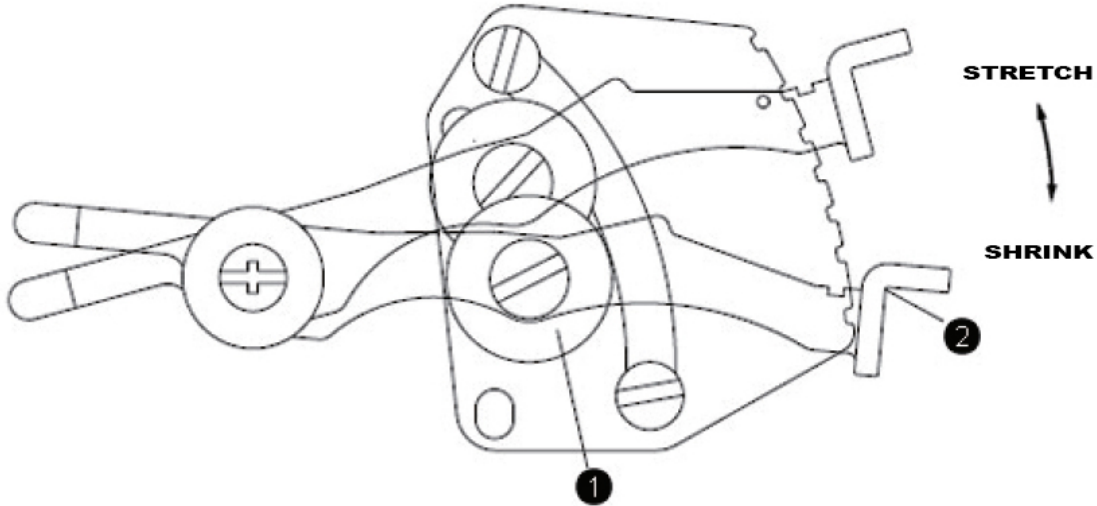

Figure 15
Loosen the adjusting nut (1) Adjust the adjusting rod (2) downward will shrink the fabric, whereas move it upward will extend the fabric. Tighten the adjusting nut (1) after the adjustment finishes. (Fig.15)